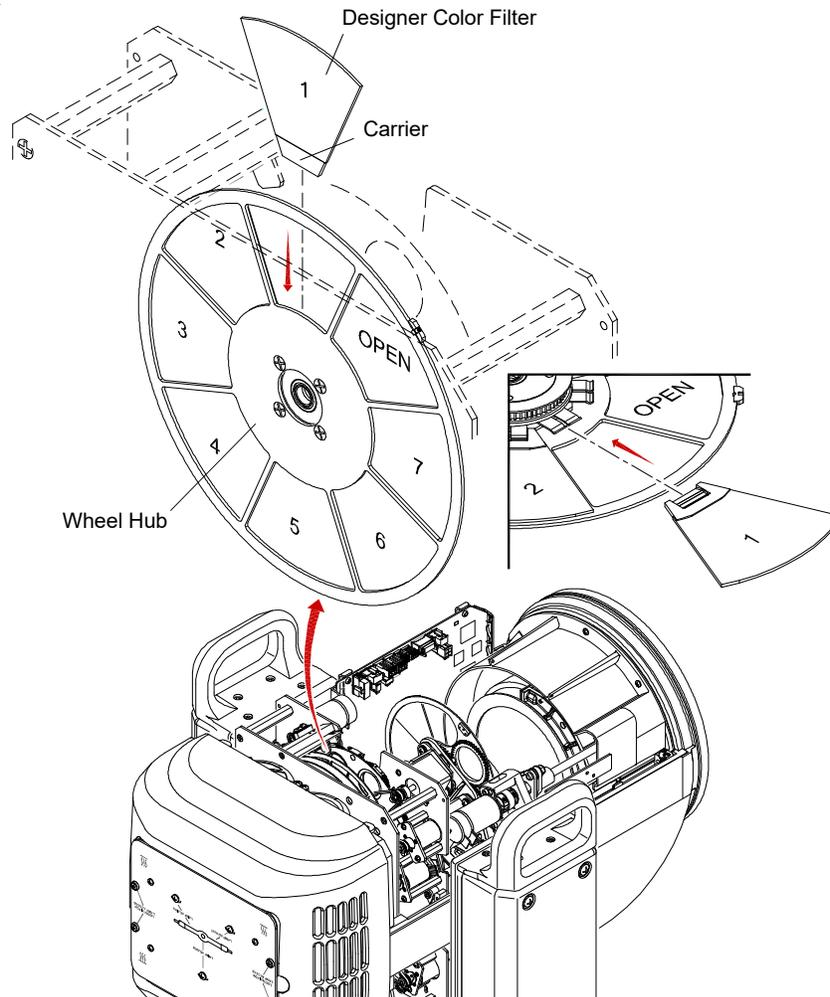

Figure 3-16: Removing a Designer Color Filter
Step 3. Rotate wheel until desired designer color filter is accessible (**Figure 3-16**).